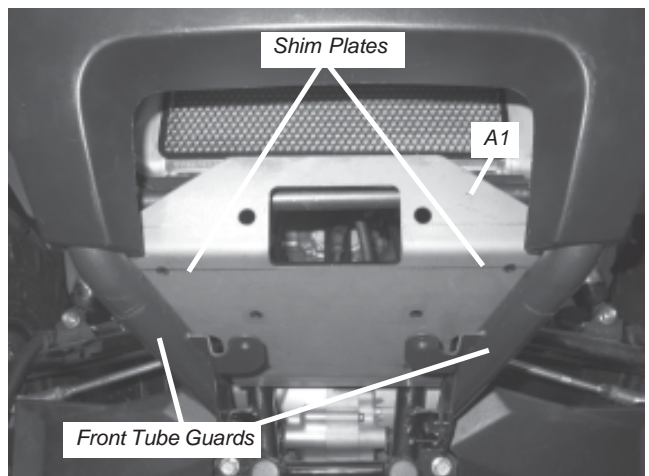

Figure 7 Place Winch Mounting Plate into Location
2. Rotate the mounting plate into location, Figure 7. Center the plate between the two front tube guards and align winch plate holes with plow mount holes.
3. Install shim plates (C3) under the front of winch mount. Figure 7.